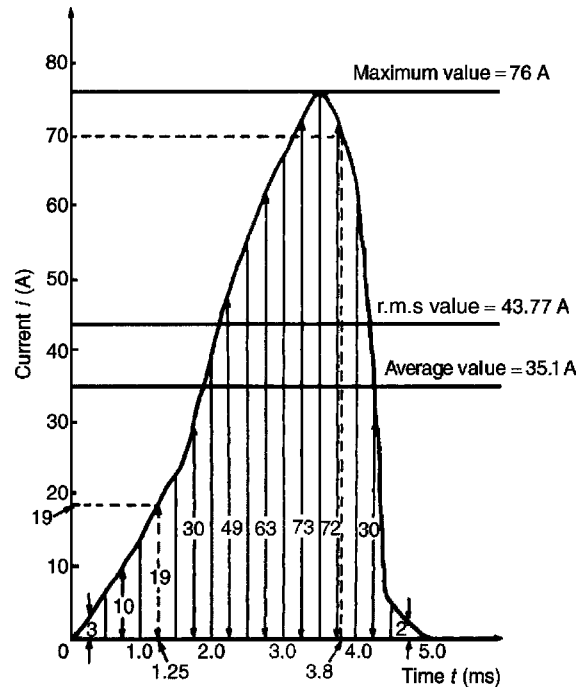

Figure 16.6
The half-cycle of alternating current is shown plotted in Fig. 16.6
- (b) Instantaneous value of current after 1.25 ms is **19 A**, from Fig. 16.6. Instantaneous value of current after 3.8 ms is **70 A**, from Fig. 16.6
$$\begin{aligned} \left. \begin{array}{l} \text{area under} \\ \text{curve} \end{array} \right\} &\approx (0.5 \times 10^{-3}) [3 + 10 + 19 + 30 \\ &\quad + 49 + 63 + 73 \\ &\quad + 72 + 30 + 2] \\ &\quad \text{(see Fig. 16.6)} \\ &= (0.5 \times 10^{-3})(351) \end{aligned}$$